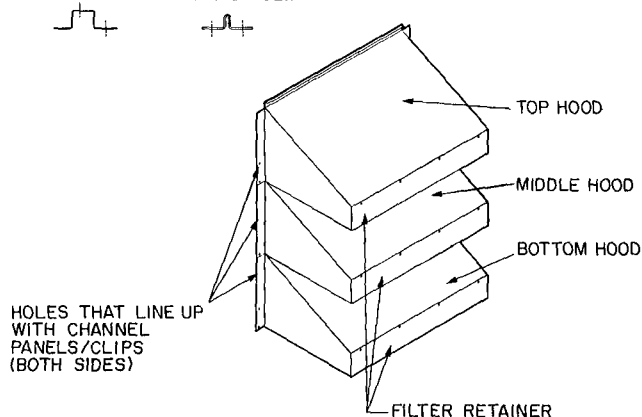

Fig. 11 — Economizer Hood Assembly Holes
- 2 channel panels } see Fig. 11 for cross-section
See Fig. 11 and insert the capscrew bolts through the flange holes as shown, from the back side, threads facing outward. Note that though there are 12 holes (4 per hood) per side, only the 3 shown per side are to be used.